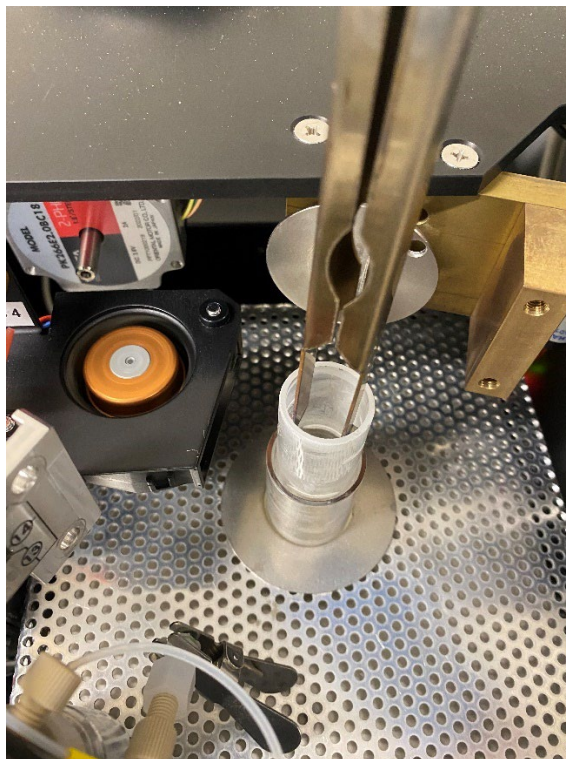

Figure 15: The use of tongs to remove the ash finger from the top of the combustion tube.
- 3.9.2.3 Remove the protective tube and ash finger from the combustion tube (Figure 15).